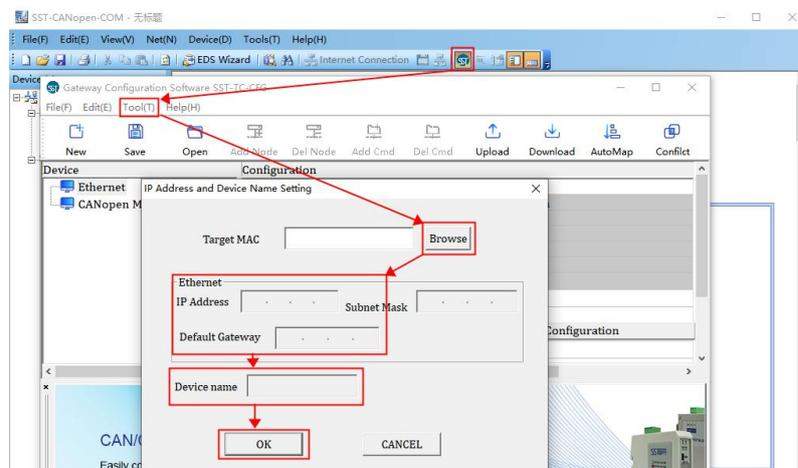

Figure 9: Configure the IP address and device name for the gateway
3.1 Open the GT200-PN-CO configuration software SST-CANopen-COM, click the  configuration button, then click "Assign Ethernet Parameters" in the drop-down menu of the Tool. Click "Browse" to search for the gateway IP address and device name, and click OK after modification, as shown in Figure 9.